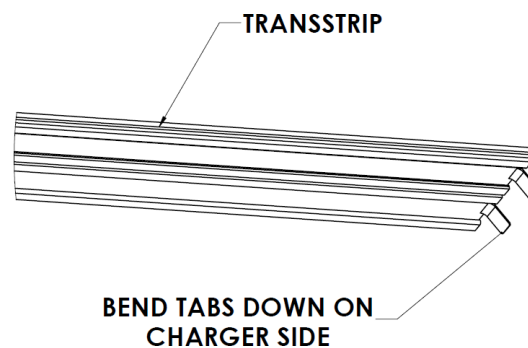

Figure 313: ***Bend the Male Terminal Tabs Approximately 45°***
4. Use pliers to bend the male terminal tabs approximately 45° (Figure 313).